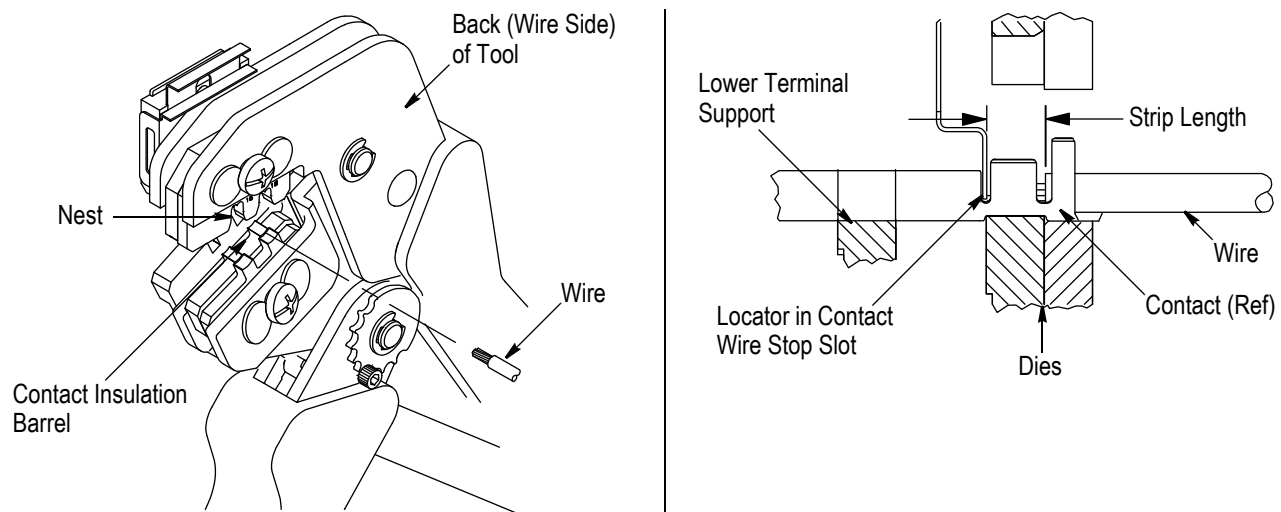

Figure 3
Refer to Figure 1, and select a contact for the wire size being used. Strip the wire to the length indicated in Figure 1, taking care not to nick or cut wire strands. Identify the appropriate crimping chamber according to the wire size markings on the die assembly. Refer to Figure 3, and proceed as follows:
3. Position the contact so that the mating end of the contact is on the locator side of the tool and so that the open "U" of the wire barrel faces the top of the tool. Place the contact up into the nest of the die so that the locator drops into the wire stop slot in the contact. Refer to Figure 3. Butt the front end of the wire barrel against the locator. Make sure that the wire stop enters the contact wire stop slot between the wire barrel and contact shoulder.
5. Insert the stripped wire into the contact insulation barrel and wire barrel until it butts against the wire stop as shown in Figure 3.